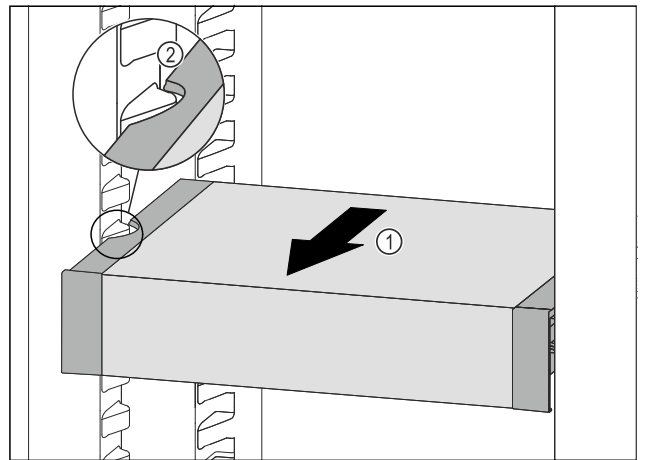

Fig. 123
- ▶ Pull VarioSafe forwards Fig. 123 (1) until the recesses in the side of the VarioSafe are at the level of the support rib in the fridge section. Fig. 123 (2)